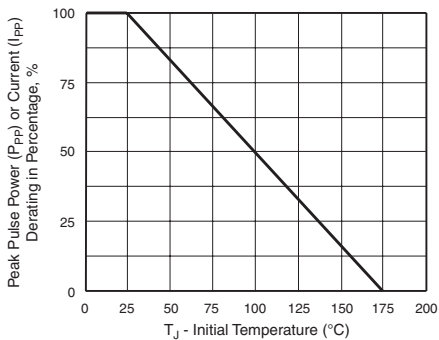
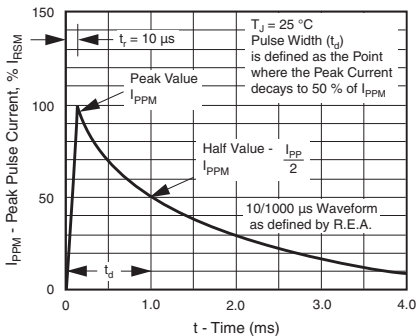

Figure 2. Pulse Power or Current vs. Initial Junction Temperature
Figure 3. Pulse Waveform
- (1) Pulse test: tp ≤ 50 ms
- (2) Surge current waveform per Fig. 3 and derated per Fig. 2
- (3) All terms and symbols are consistent with ANSI/IEEE C62.35
- (4) For bi-directional types having VWM of 10 V and less, the ID limit is doubled